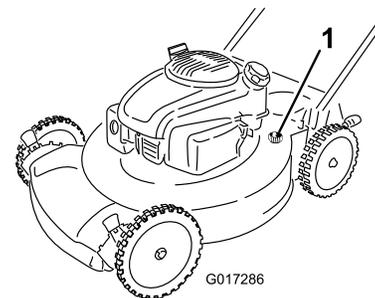

Figure 24
4. Attach a garden hose that is connected to a water supply to the washout port on the machine (Figure 24).